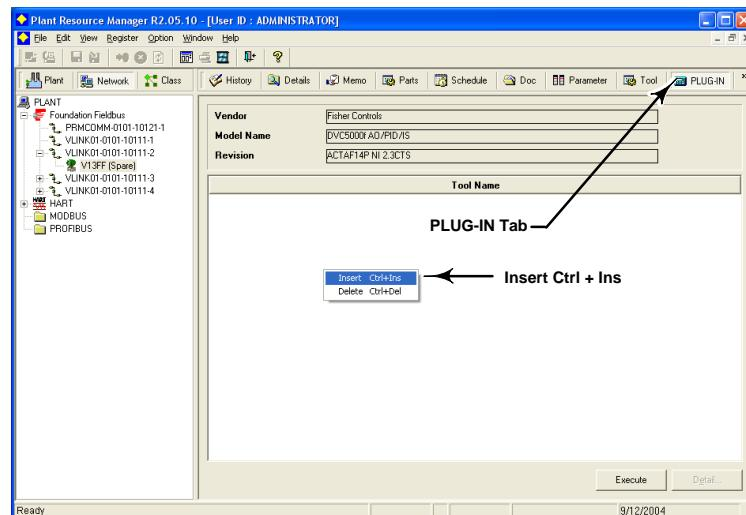

Figure 5-1. PLUG-IN Tab
Step 3: Click on the PLUG-IN tab. Move the mouse cursor to the white list box, as shown in figure 5-1 and right-click. Select the Insert Control + Ins option.